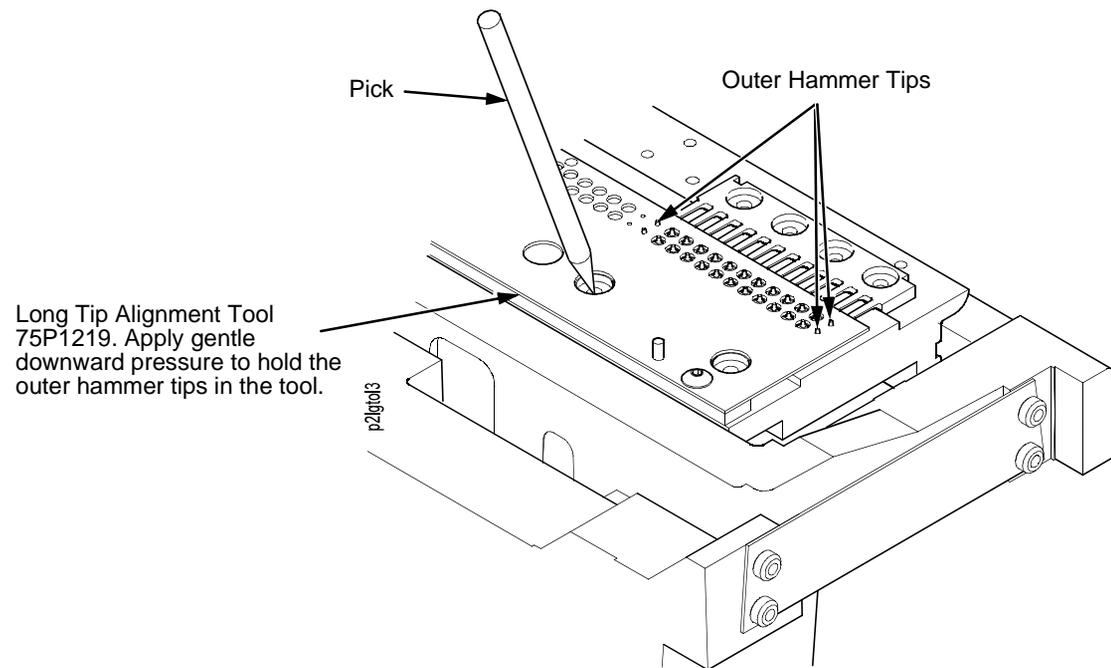

Figure 24. Use the Pick to maneuver the Hammer Tips into the Holes in the Long Tip Alignment Tool.
6. Apply a slight, continuous downward pressure to the alignment tool and gently swivel the alignment pick in the hammer spring mounting holes to maneuver the hammer tips into the tiny holes in the alignment tool. You will feel/hear a small “click” when the hammer tips slip into the holes. Use the pick to set the outer hammer tips of both facing assemblies. (See Figure 24.)